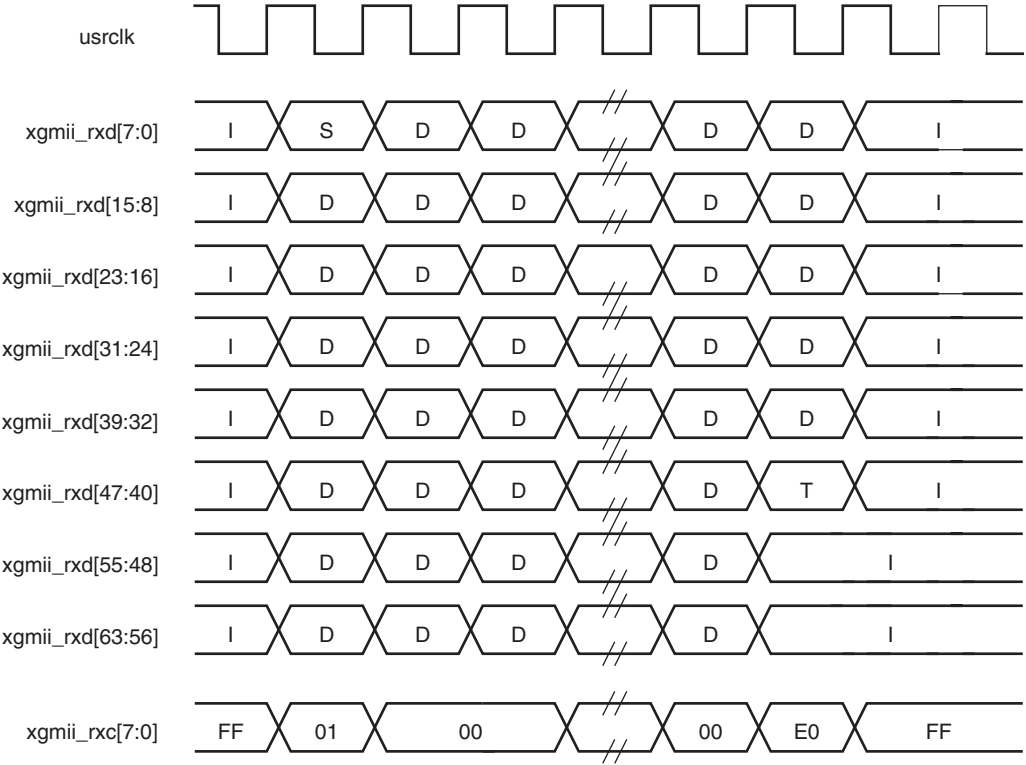

Figure 5-9: Frame Reception Across the Internal 64-bit Client Interface
The timing of a normal inbound frame transfer is shown in Figure 5-9. As in the transmit case, the frame is delimited by a Start character (S) and by a Terminate character (T). The Start character in this implementation can occur in either lane 0 or in lane 4. The Terminate character, T, can occur in any lane.